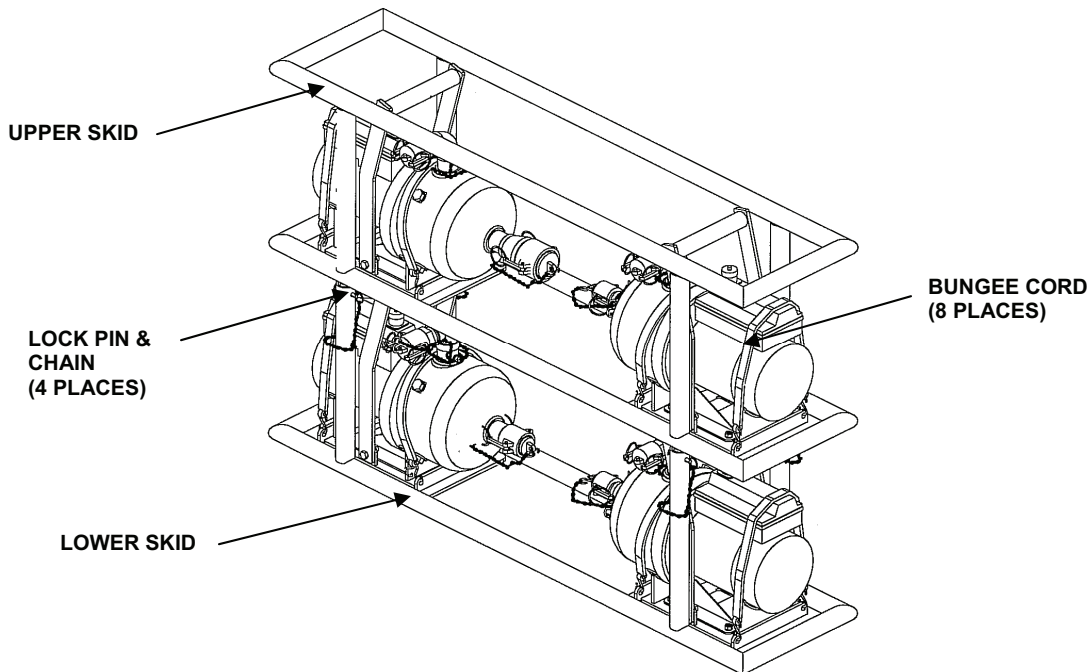

Figure 13. Service Pump Skids.
22. Place the service pumps on the skids with the suction and discharge couplers toward the center. Make sure the four service pumps are secured in position on skid with two bungee cords each. See Figure 13.